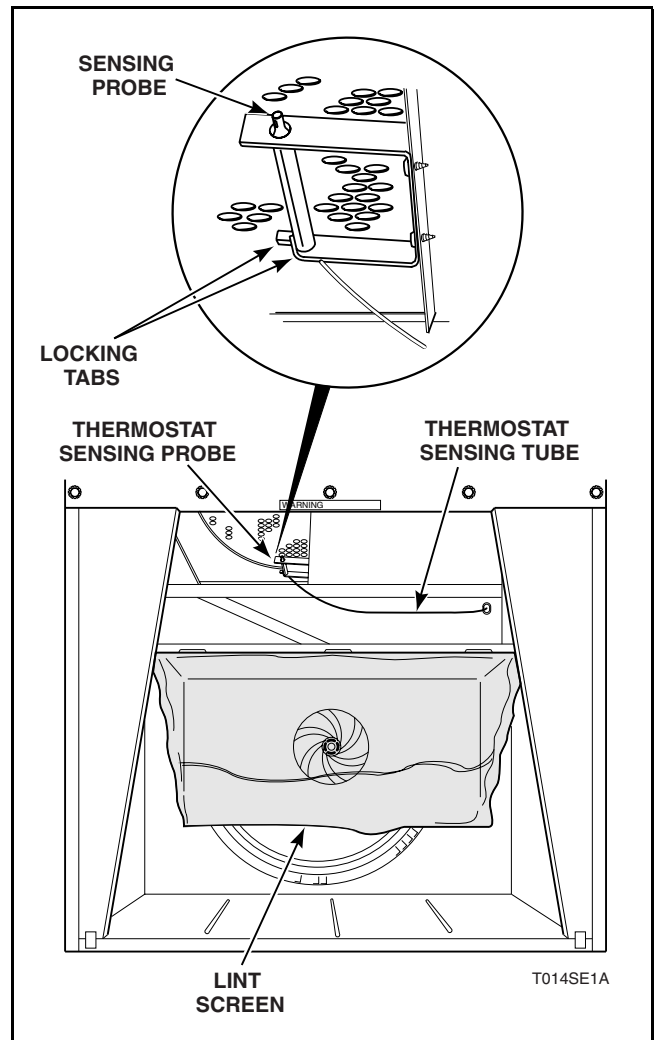

Figure 15
- i. Spread locking tabs on sensing probe bracket and disengage probe from bracket. Refer to *Figure 15*.